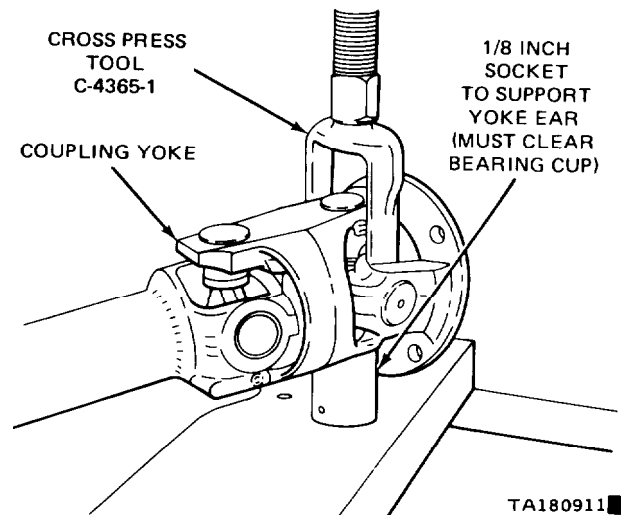

Figure 6-10. Bearing Cup Removal.
- (3) Position the U-joint on a workbench or press with the shaft yoke supported by a 1-1/8-inch socket (figure 6-10)